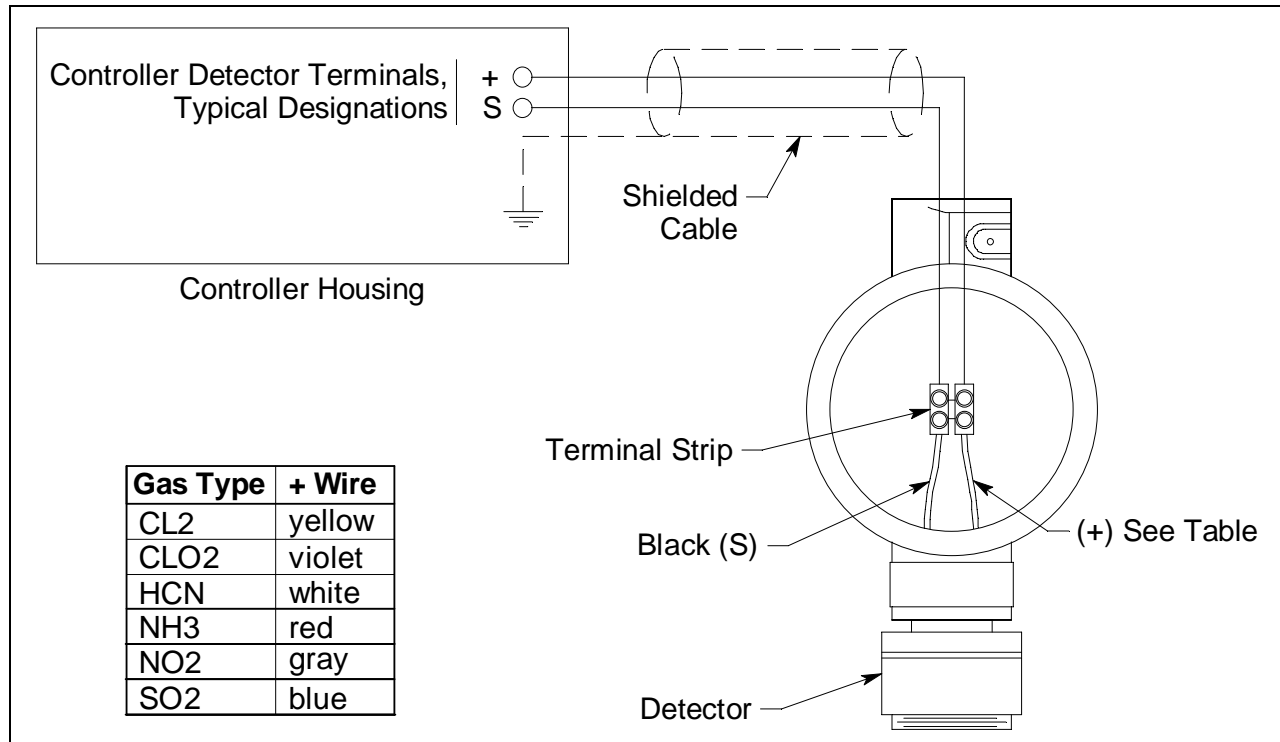

Figure 4: Wiring to a Controller
The detector housing body protects the electronic components within the housing. Use the mounting threads at the top of the housing to screw the detector into a 3/4 NPT hub. Two wires extend from the top of the detector housing body. Use these wires to connect the detector to a controller. One of the wires is black and one of the wires is color-coded depending on the detector type. See Figure 4 on page 11 for the color code assignments.
3. If the detector is mounted remotely from a controller using the junction box, proceed to step 4. If the detector is mounted directly to a controller, connect the detector's color-coded and black wires to the appropriate controller detector terminals (see Figure 4 for the color coding of the non-black wire) and skip to the Startup Section.